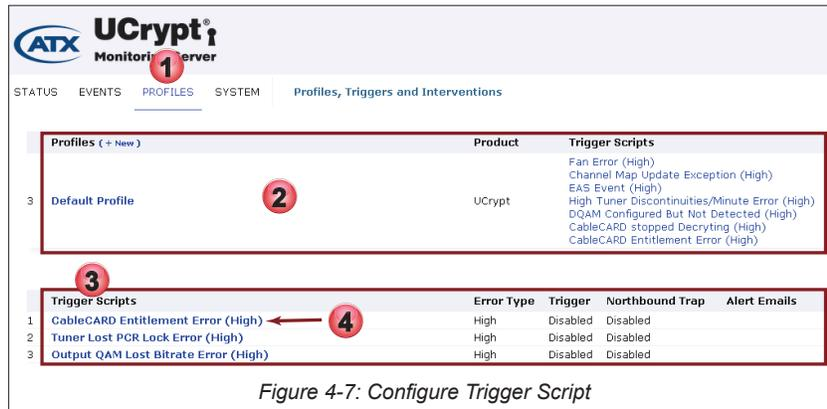

Figure 4-7: Configure Trigger Script
1. Click the **Profiles** tab if it is not already selected, Figure 4-7.